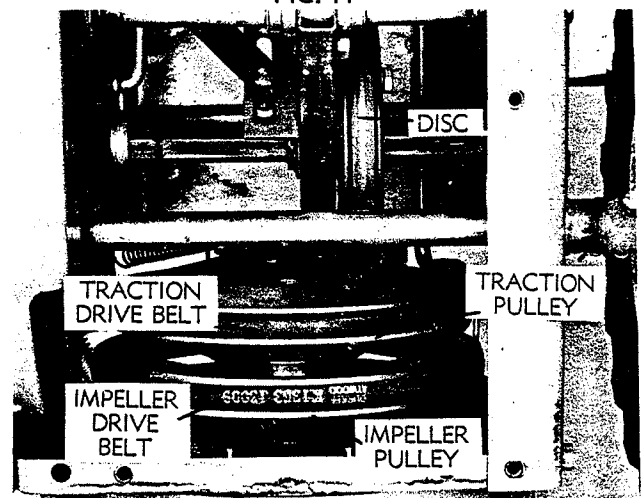

FIG. 12
- Remove belt from traction pulley. (Fig. 12).